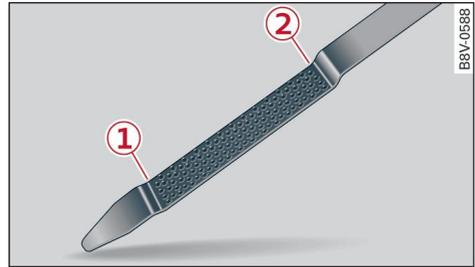

Fig. 138 Oil dipstick (example): Checking engine oil level
Markings on oil dipstick ⇒ Fig. 138
- When topping up the engine oil, make sure that the oil level is not above the marking  ⇒ Fig. 138, as this may result in damage to the catalytic converter or to the engine. If the oil level is above the marking , drive ▶